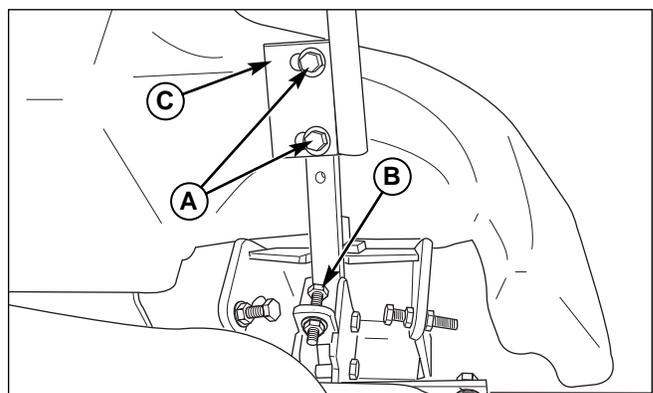

Figure 27. Control Lever Adjustment
Loosen the mount bolts (A, Figure 27) and pivot the lever(s) (C) to align with each other.